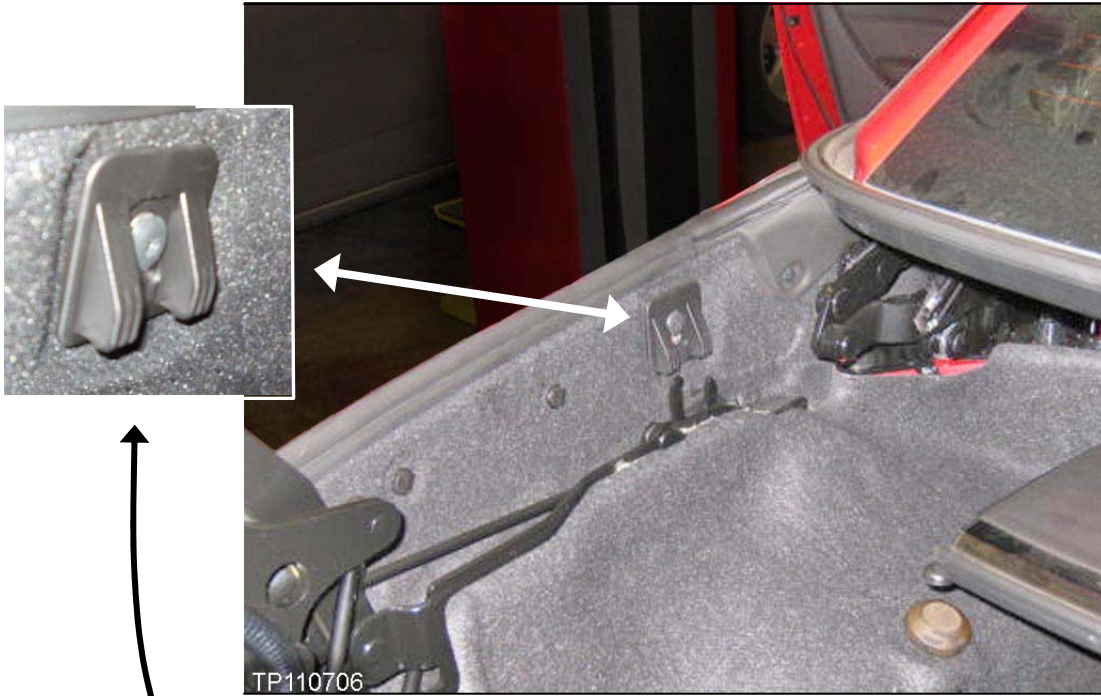
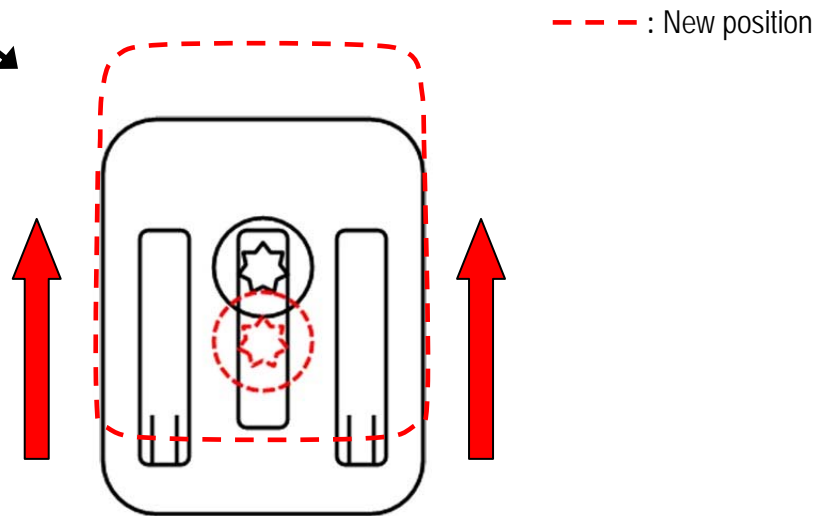

Figure 35f
Figure 36f
38. Next, adjust the side wedges of the vehicle's trunk as shown in Figure 36f, and where pointed out in Figure 35f.